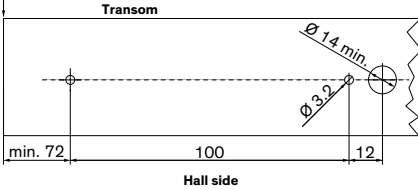

Figure 13: Drilling template
1. Drill two 3.2 mm (1/8 inch) holes for the mounting box with 100 mm distance into the transom. Drill a 14 mm (0.55 inch) hole into the transom for the sensor cable (Figure 13).